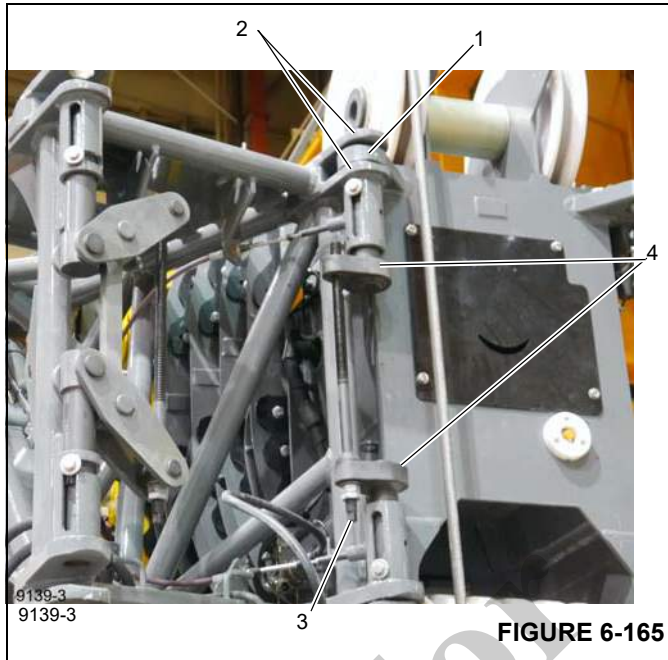

FIGURE 6-165
9. Swing the heavy duty boom extension so the attachment fittings (2), (Figure 6-165) align with the main boom anchor fittings (1), (Figure 6-165).
10. Use the impact driver to turn the jack screw (3), (Figure 6-165) counterclockwise to insert the pins (4), (Figure 6-165) into the fittings.